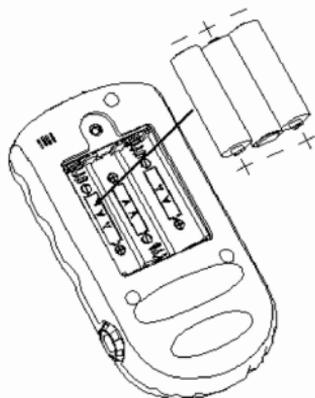

Figure 2
2. According to the polarity mark, insert three AA batteries into battery house, as shown in Figure 2.